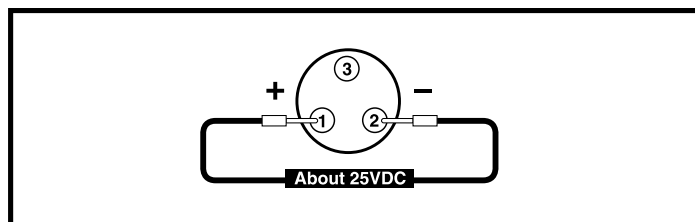
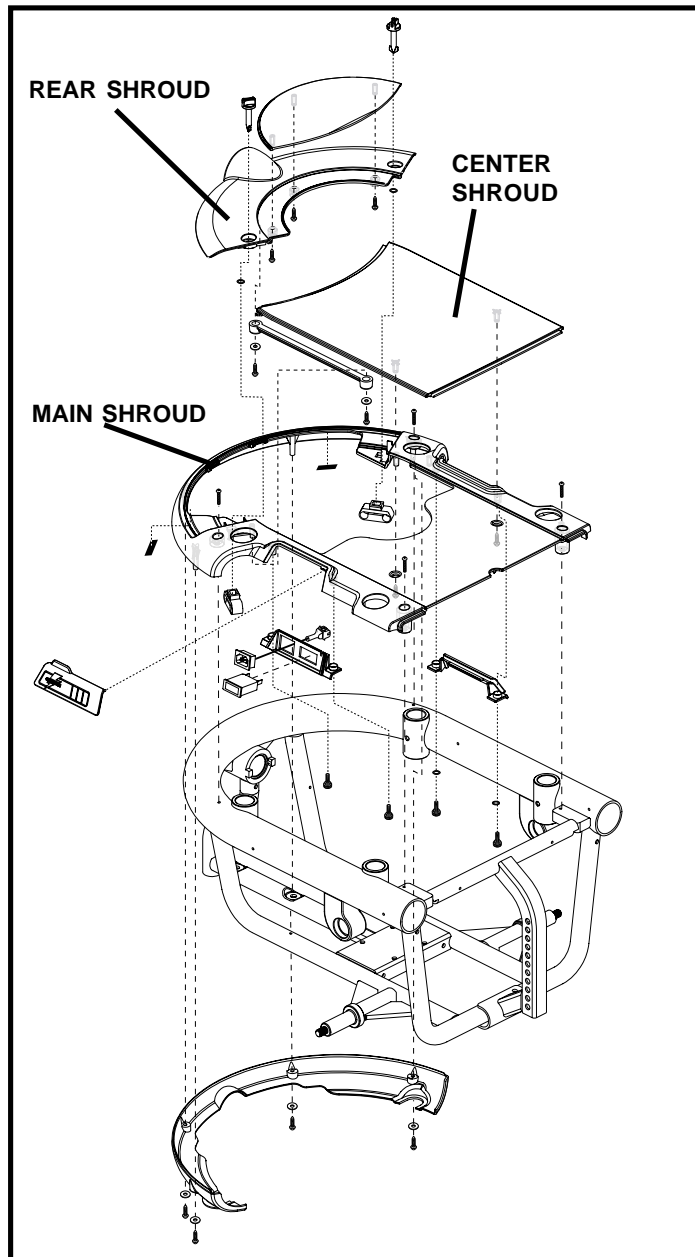

Figure 2. Connector 1a
Figure 3. Shroud Assembly
1. Measure voltage across pin 1 (B+) and pin 2 (B-) of the off-board charger socket (connector 1a). See diagram 3 and figure 2.
- If your multimeter indicates about 25VDC, then replace the FLIGHT controller (1) and retest the system.
3. Remove the rear shroud. See figure 3.
4. Remove the center shroud. See figure 3.